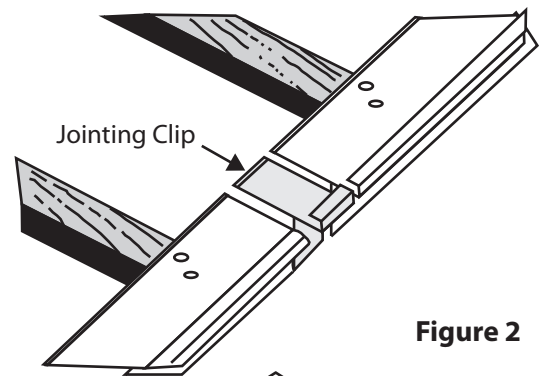

Figure 2
4. Place the next section of Dry Verge into position by first sliding into position by first sliding into place a jointing clip and then attaching the second piece of Dry Verge to the jointing clip to form a bridge between the lengths. This jointing clip also continues the flow of water down the Dry Verge in line with BS5250 stipulations (as shown in Figure 2).